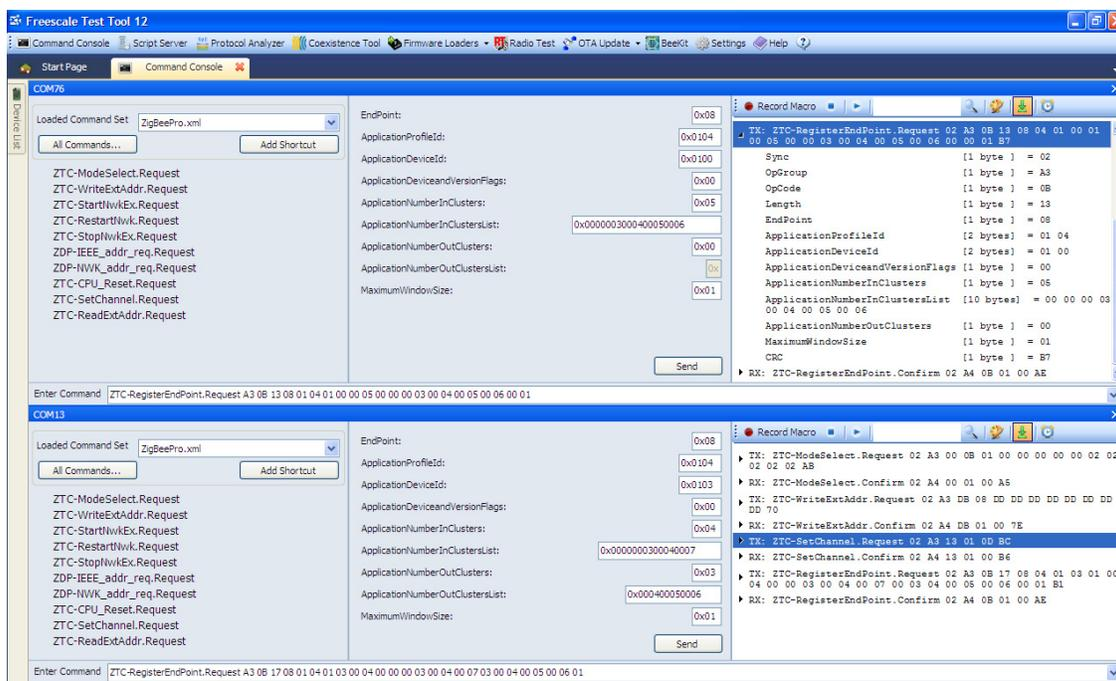

Figure 8-12. EndPointDescription Window.
2. Enter the following values as shown in Figure 8-12.
- ApplicationProfileId: 0x0104 (HA)